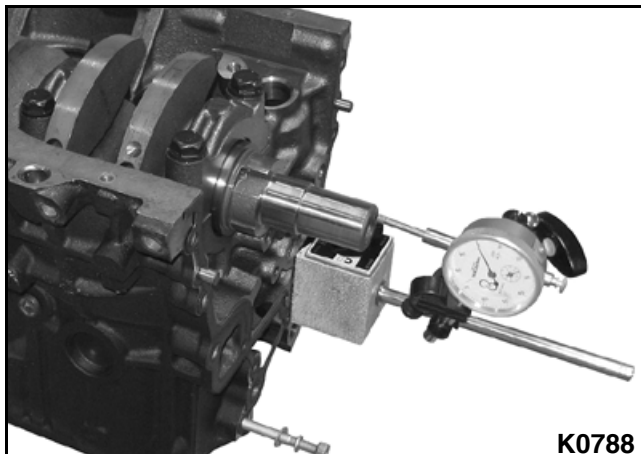

Figure 3-200
1. Using micrometer or dial indicators measure the thrust clearance between the crankshafts back and forth with a screwdriver. **See Figure 3-200.**